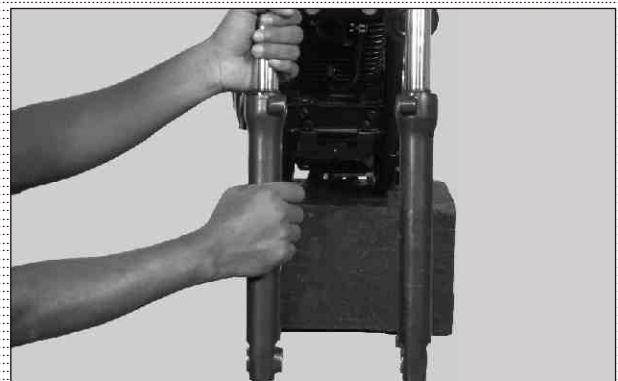

Fig. 6.42
- Pull out leg assembly R. (Fig. 6.42).